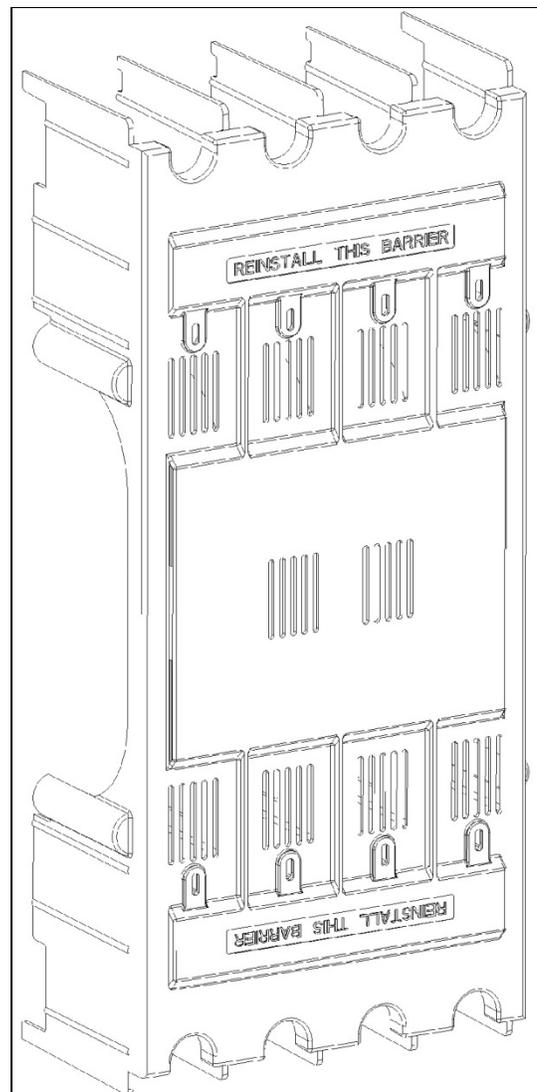

Figure 20. Barrier removal
- Remove the barrier** (Figure 20). Use a phillips screwdriver to loosen (ccw) four or six captive round-head screws holding the barrier to the arc chutes. Then pull the barrier straight outward to remove it.
- Reinstall the barrier.** Install the barrier over the arc chutes. Use a phillips screwdriver to tighten (cw) the four or six round-head screws to secure the barrier to the arc chute insulator nuts. See Figure 20.